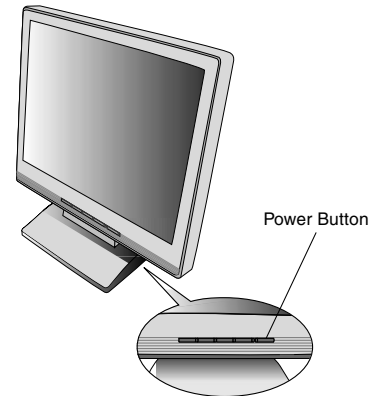

Figure C.1
5. Turn on the monitor with the front power button and the computer (**Figure C.1**).